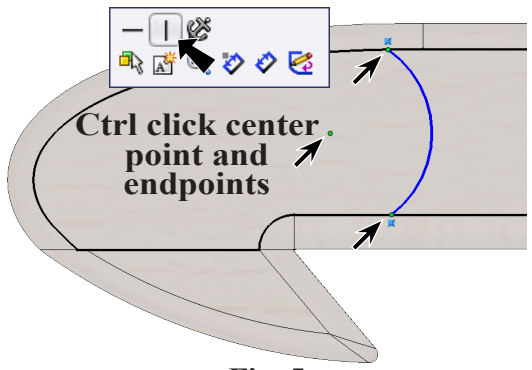

Fig. 5
Step 4. **Ctrl click center point of arc and both end-points** to select all three points, **Fig. 5**. Release **Ctrl key** and click **Make Vertical**  on the Content menu.